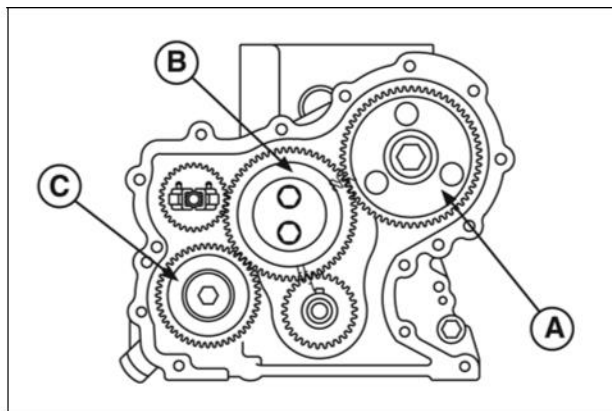

Figure 10
11. Remove camshaft timing gear (A, Figure 10).
12. Remove idler gear (B).